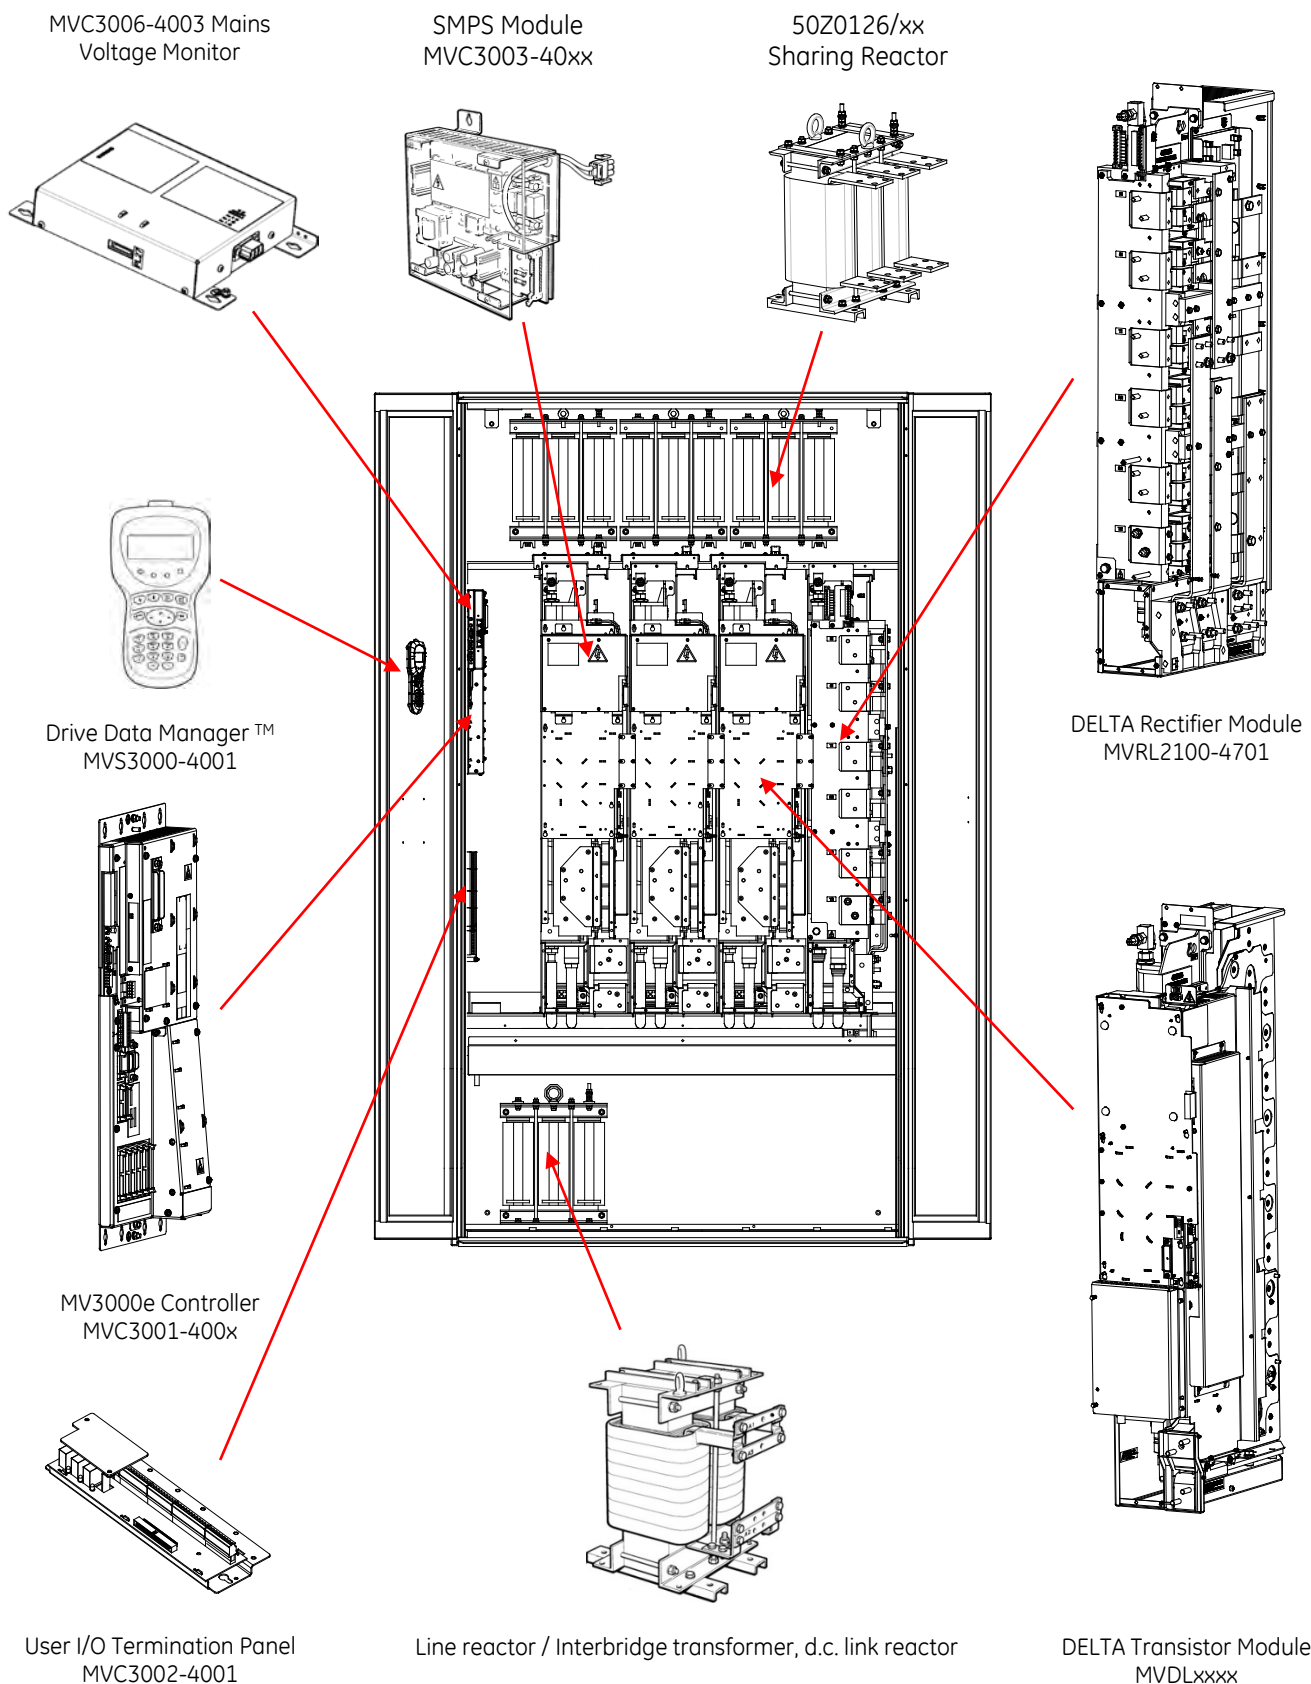

Figure 1–3. – Typical layout of CDM
- A phase shifting transformer is used to produce the additional 3 phases which are phase shifted by 30° as shown in Figure 1–1. These two sets of three phase supplies are rectified by two rectifier bridges.
A typical layout showing the key DELTA components that may be combined to build a CDM (Complete Drive Module) is shown in Figure 1–3.